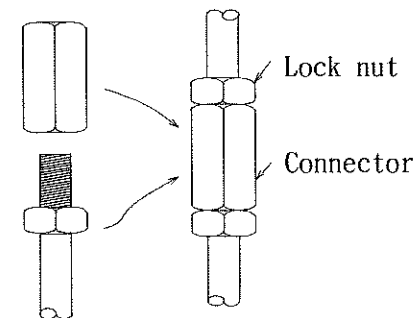

Fig. 11
(3) In case of Titanium (See Fig. 11)